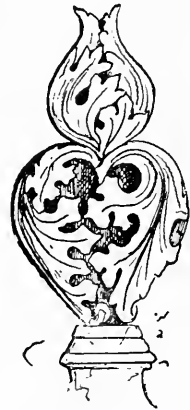

Fig. 80.
*Ends of Pews.* A favourite subject for carvers in the days of old, *vide* Fig. 80.
*Finial.* A terminating ornament, corresponding to a flower as a crochet does to a side leaf, Fig. 80, etc.
desks, and other clerical wood-work" (F. W. Fairholt, Poppy-heads can be placed, however, or adapted, to all kinds of furniture, with a variation in form, Fig. 80.